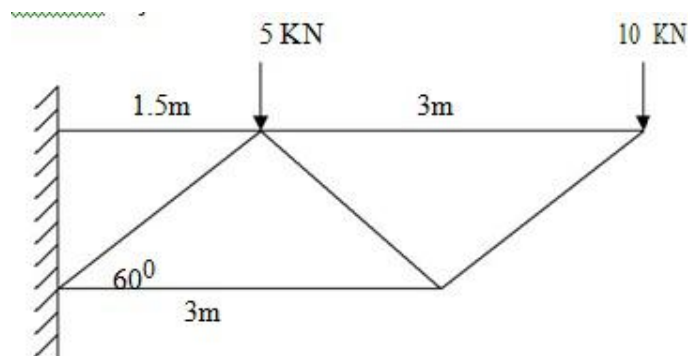

Figure 1
- (b) A bar of 25mm diameter is subjected to a pull of 40 *kN*. The measured extension on gauge length of 200mm is 0.085mm and the change in diameter is 0.003mm. Calculate the value of Poisson's ratio and the three moduli. (16)
12. (a) A cantilever truss is show in figure 1. Find the forces in the members of the truss by the method of joint. (16)